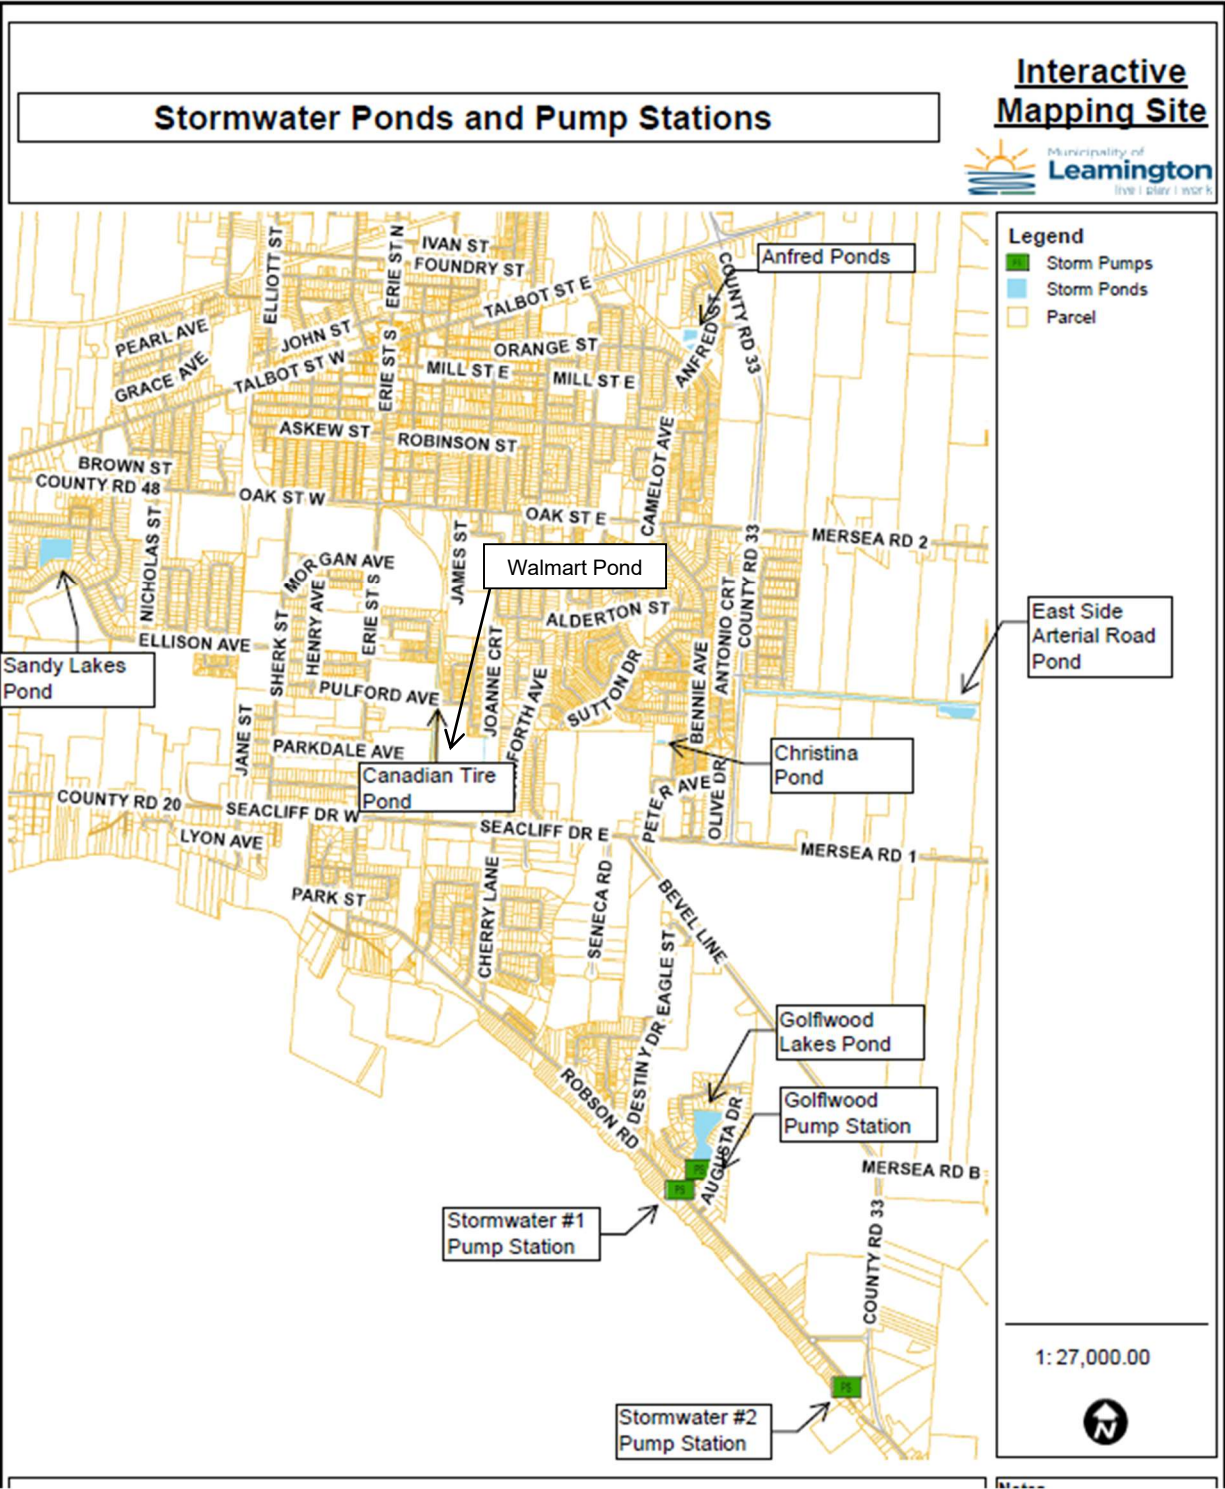

Figure 1: Stormwater Pond and Pump Station Locations
The stormwater management pond locations are shown in Figure 1.
The stormwater system includes three (3) stormwater pump stations as shown in Figure 1. All storm pump stations are equipped with one submersible pump and a local control panel that communicates to the Leamington Pollution Control Centre (LPCC) via cellular network. Pump station remote monitoring includes pump status, wet well levels and alarms. No sampling was completed for the storm pump stations in 2025.